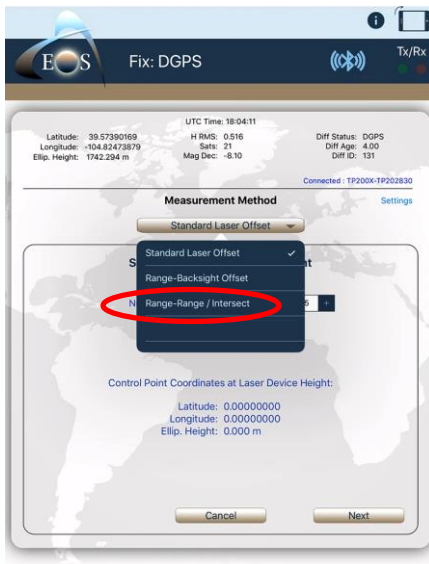

Figure 9A
- 9A. Pull down the **Measurement Method** menu; select **Range-Range** (Figure 9A) and tap **Next**